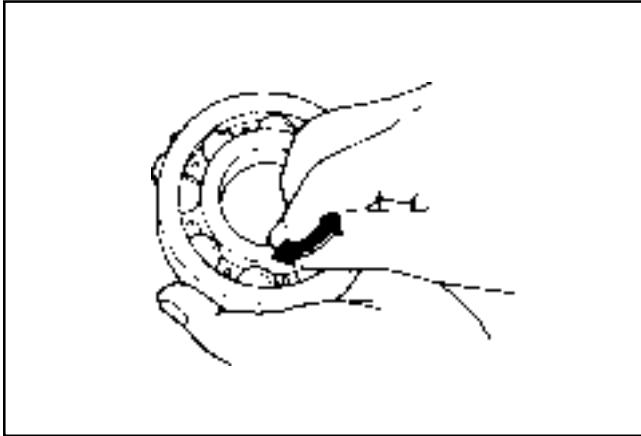

Figure 9-62. Checking Bearing Play.
6. Check the reduction system bearings for wear or excessive play. See Figure 9-62. If bearing removal is required, use an internal bearing puller to remove the housing bearings. An arbor press should be used for removal of the others.
7. Check the reduction system bearings for wear or excessive play. See Figure 9-62. If bearing removal is required, use an internal bearing puller to remove the housing bearings. An arbor press should be used for removal of the others.